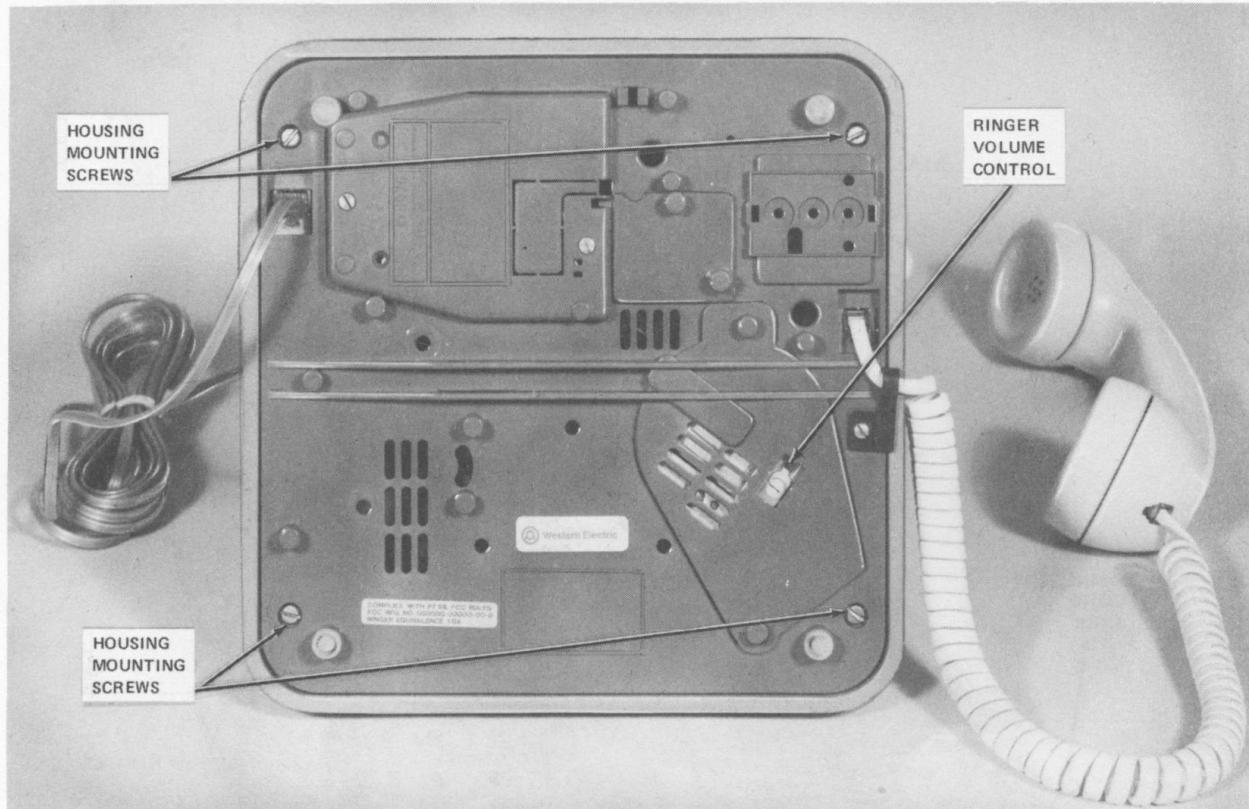
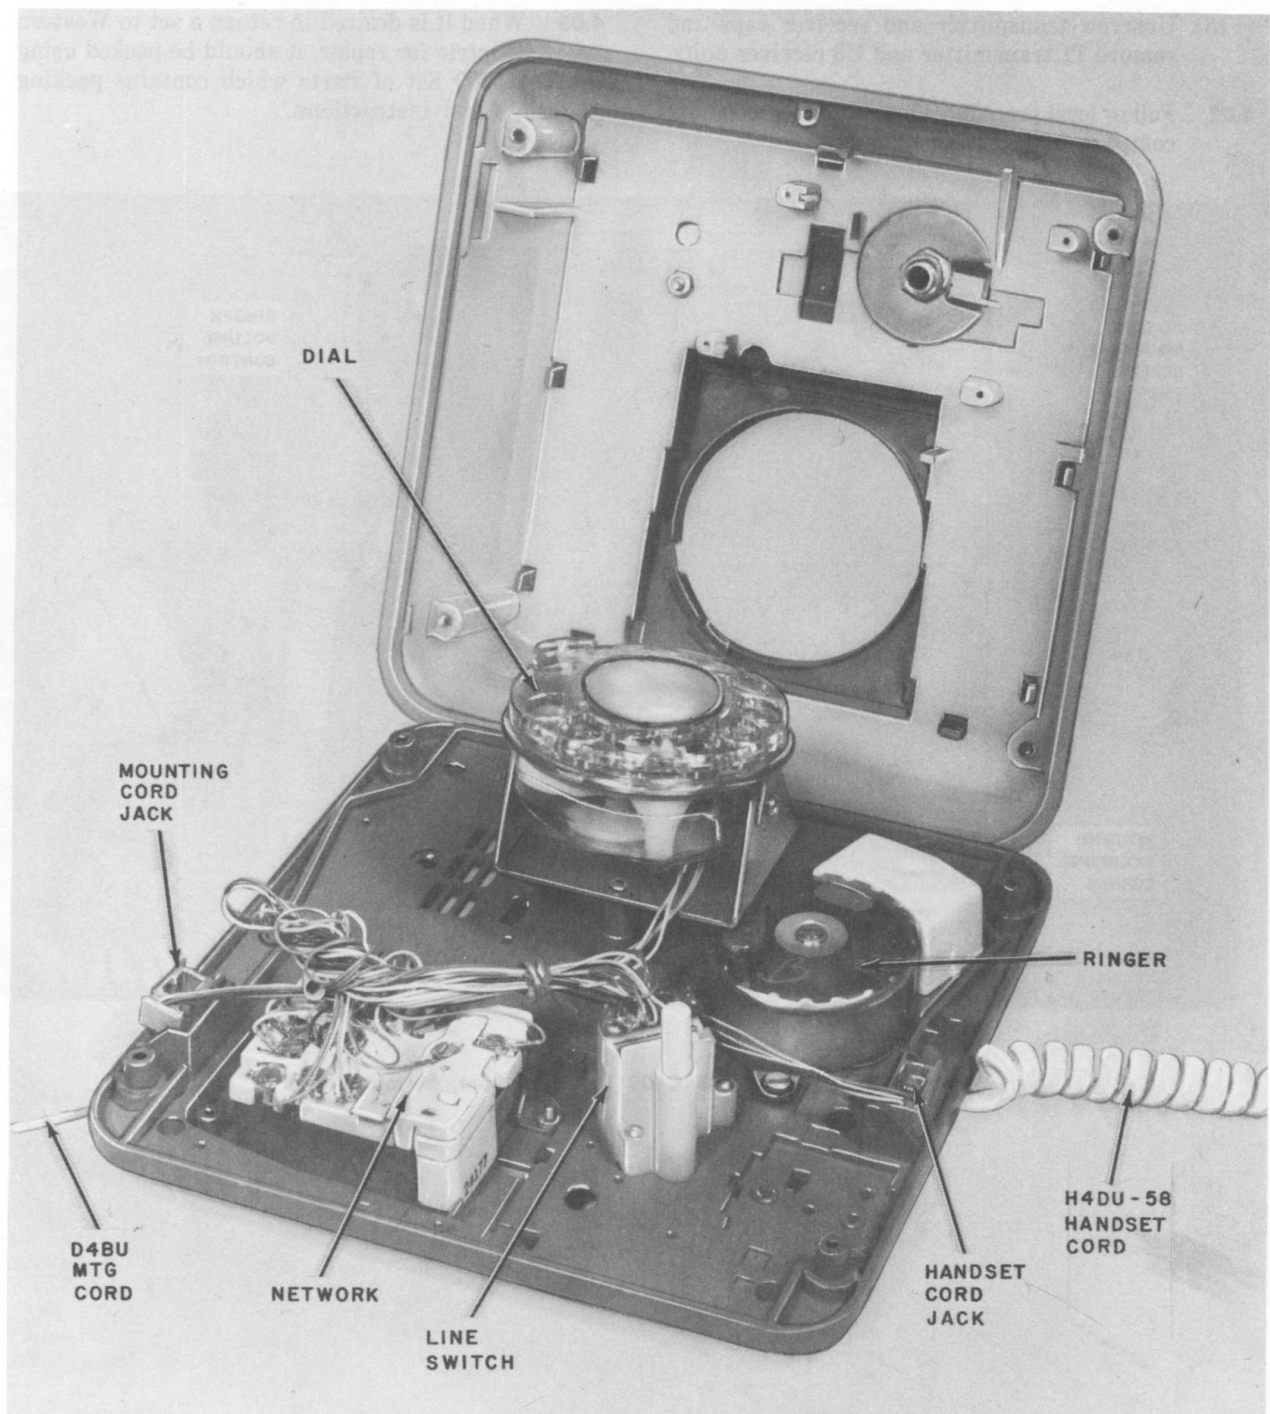

Fig. 2—881C109 or 2881C109 Telephone Set, Bottom View
Fig. 3—881C109 Telephone Set With Housing Open
- (1) Remove four housing mounting screws from the bottom of the telephone set (Fig. 2) and remove housing.
- (2) For the 881B109 or 2881B109 only, pop off small black cover on bottom of base and remove two outer line switch mounting screws from the base and remove line switch.
- (3) For the 881C109 or 2881C109 only, remove two line switch mounting screws and remove line switch (Fig. 3).
- (4) Remove two network and two ringer mounting screws from the base and remove network and ringer. (Fig. 3).